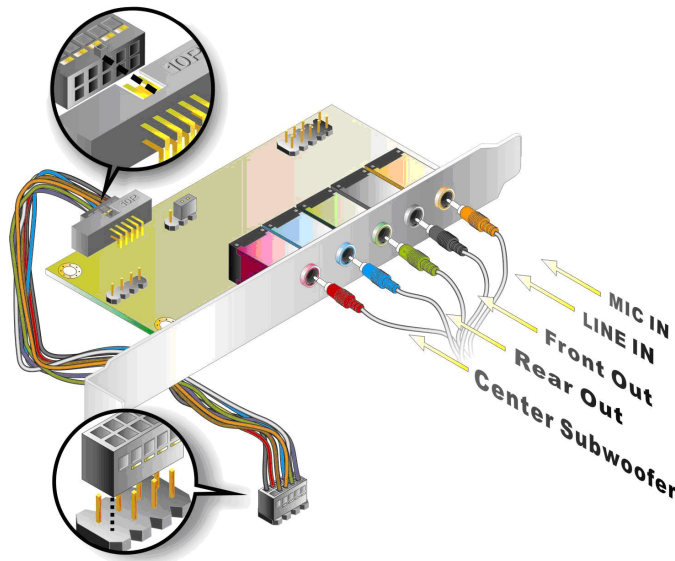

Figure 5-10: 7.1 Channel Audio Kit
- Step 3: Align pin 1.** Align pin 1 on the on-board connector with pin 1 on the audio kit cable connector. Pin 1 on the audio kit cable connector is indicated with a white dot. See Figure 5-10.